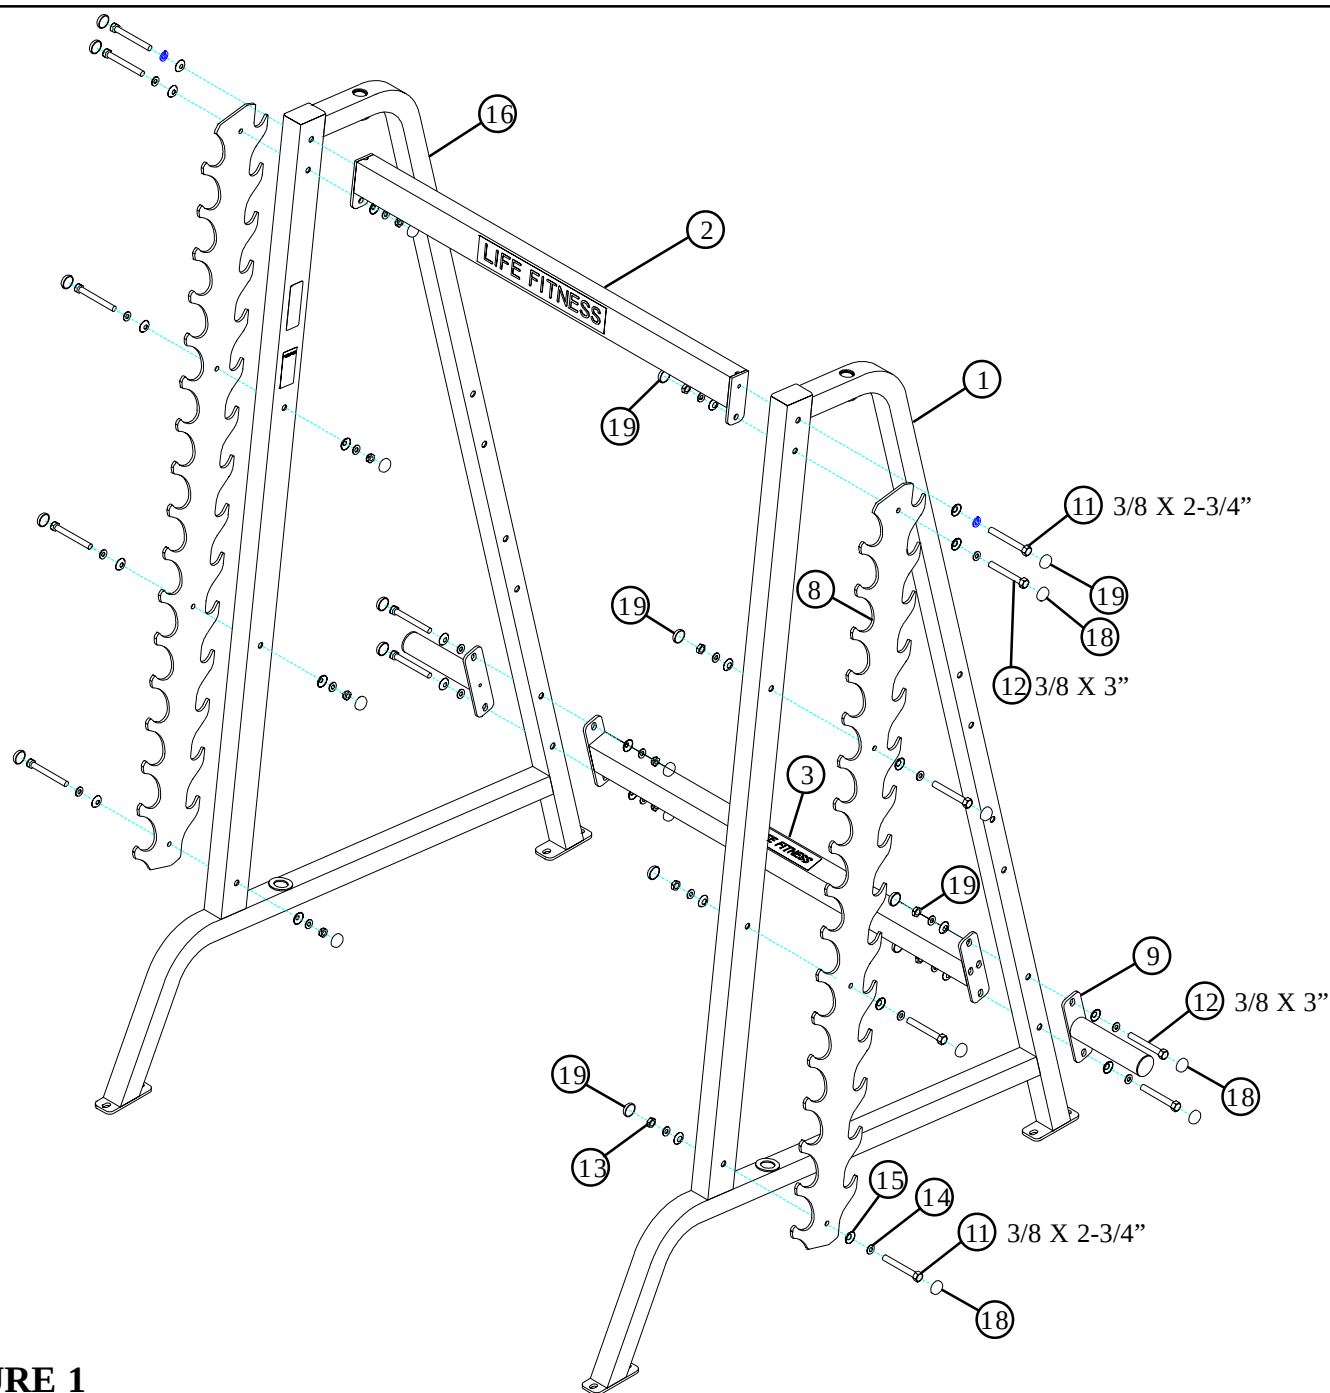

FIGURE 1
- **LOOSELY** assemble the two WEIGHT HORNS (9) and the BOTTOM CROSS BRACE (3) to the RIGHT and LEFT UPRIGHTS (1 & 16) as shown in FIGURE 1 using using four BLACK RH CAPS (18), four RH CAPS (19), four 3/8 X 3" BOLTS (12), eight 3/8" SAE WASHERS (14), eight 3/8" RH WASHERS (15) and four 3/8" LOW HEIGHT LOCK NUTS (13) as shown in FIGURE 1.
- **LOOSELY** assemble the TOP CROSS BRACE (2) to the **TOP SET** of holes of the RIGHT and LEFT UPRIGHTS (1 & 16) as shown in FIGURE 1 using using two RH CAPS (19), two 3/8 X 2-3/4" BOLTS (11), two 3/8" SAE WASHERS (14) and two 3/8" RH WASHERS (15) as shown in FIGURE 1.
- **LOOSELY** assemble the BAR SUPPORT RACKS (8) to the outside of the RIGHT and LEFT UPRIGHTS (1 & 16) as shown in FIGURE 1 using eight BLACK RH CAPS (18), eight RH CAPS (19), six 3/8 X 2-3/4" BOLTS (11), two 3/8 X 3" BOLTS (12), sixteen 3/8" SAE WASHERS (14), sixteen 3/8" RH WASHERS (15) and eight 3/8" LOW HEIGHT LOCK NUTS (13) as shown in FIGURE 1.